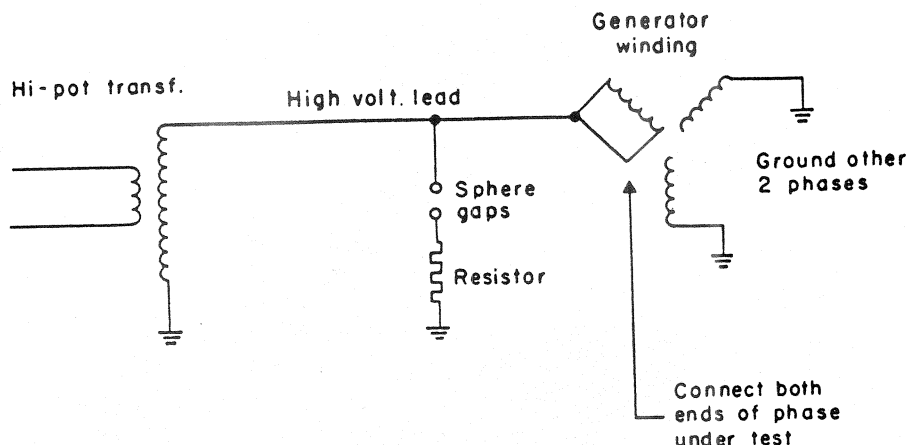

Fig. 1. High-potential test schematic circuit
- e. When high-potential tests are conducted on a complete phase of a winding, the line and neutral end of the winding should be connected together. This will reduce the voltage surge that will develop if the circuit is accidentally opened abruptly, or in case of flashover. Refer to Fig. 1.